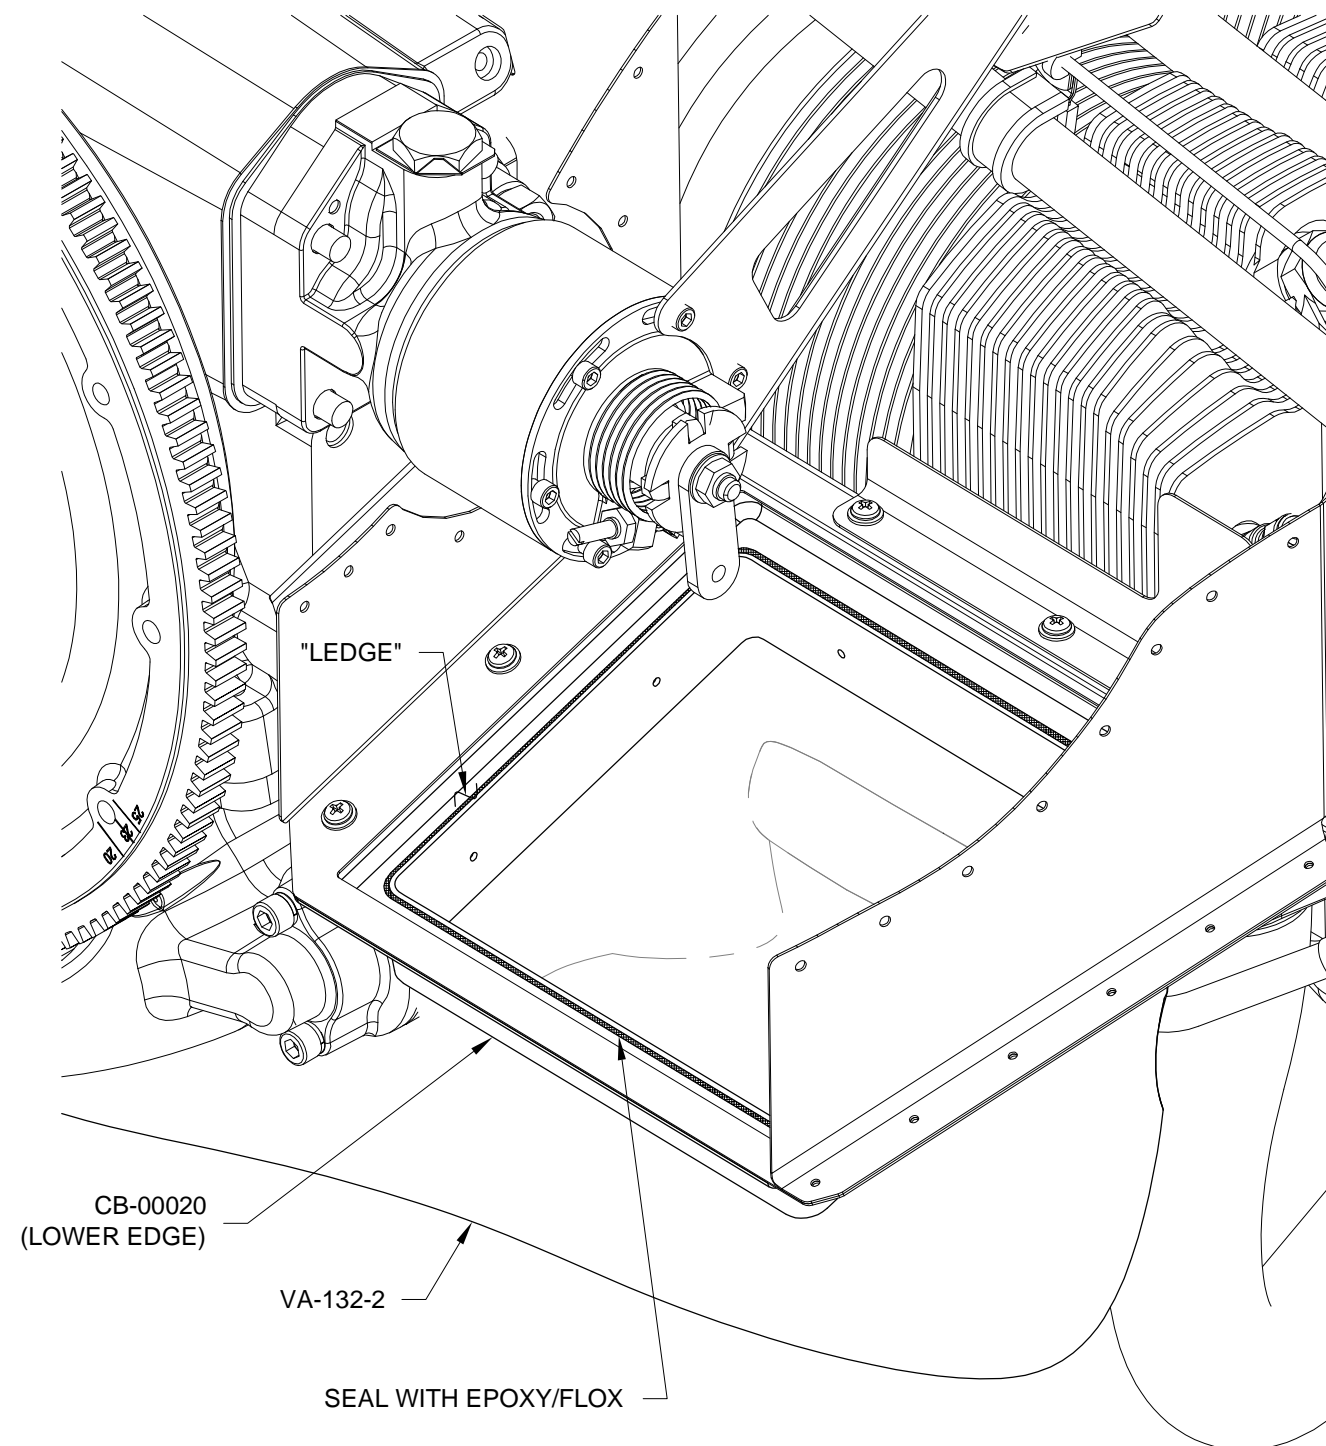

FIGURE 1: FLOX SNORKEL TO AIR FILTER FRAME
Step 5: Remove excess epoxy/flox from around both the air filter frame "ledge" and the lower edge of the air filter frame. See Figure 1.
Step 1: Cut a hole for the VA-192A Alternate Air Inlet in the outboard face of the VA-132-2 Snorkel and CB-00020 Air Filter Frame as shown in Figure 1. Use the dimensions shown in Figure 2.